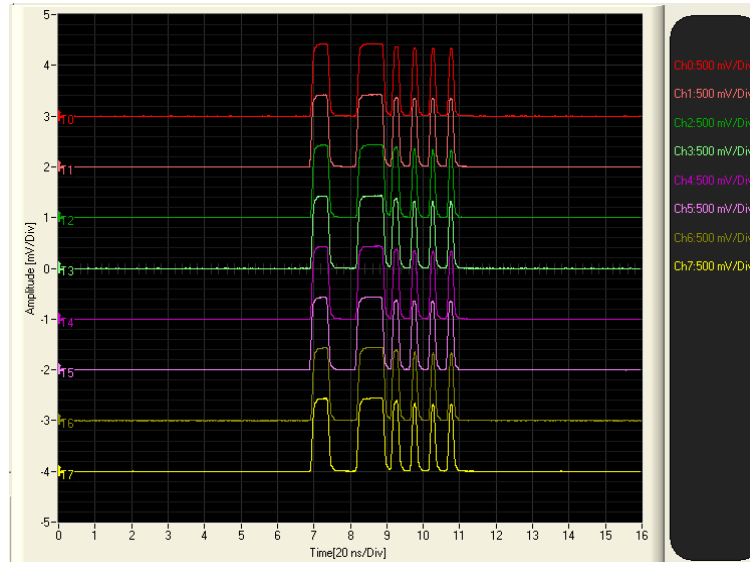

Figure 5.25: *example of pulse pattern*
- **Pattern:** this is a 16-bit word. The 16 bits are sent in sequence, LSB first. Each bit duration corresponds to one main clock period (itself corresponding to 16 samples). Figure 5.25 shows an example of pattern pulsing with a pattern value of 0xC755.